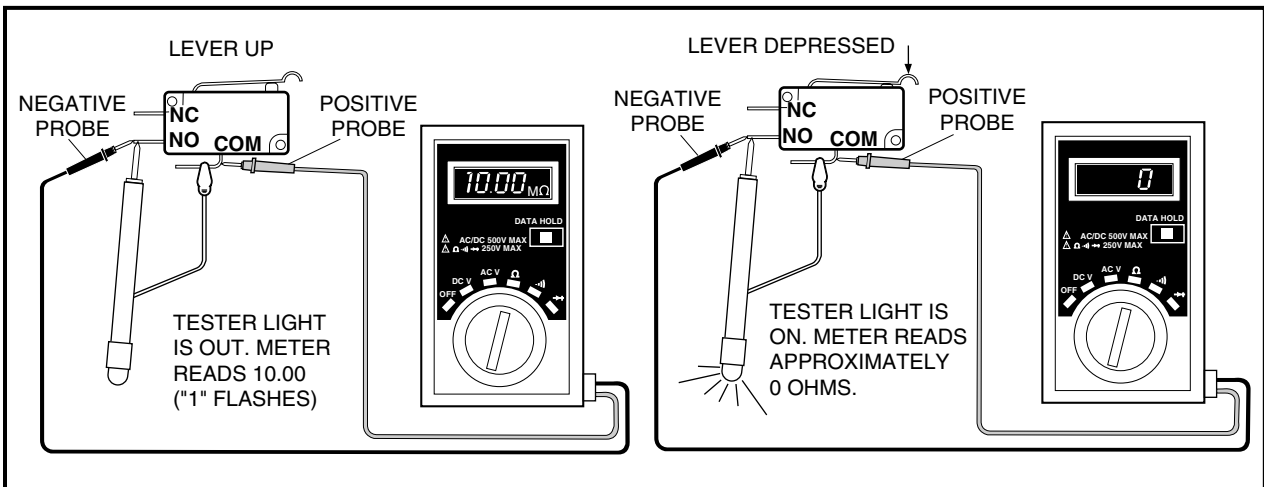

FIGURE 12-24
3. Place the red (+) probe of the multimeter on the common (COM) terminal of the limit switch. Place the black (-) probe on the normally open (NO) terminal of the limit switch. Without the lever depressed, the reading should be no continuity. Depress the lever, and the reading should be continuity. If either reading is incorrect, replace the limit switch (**Figure 12-24**).